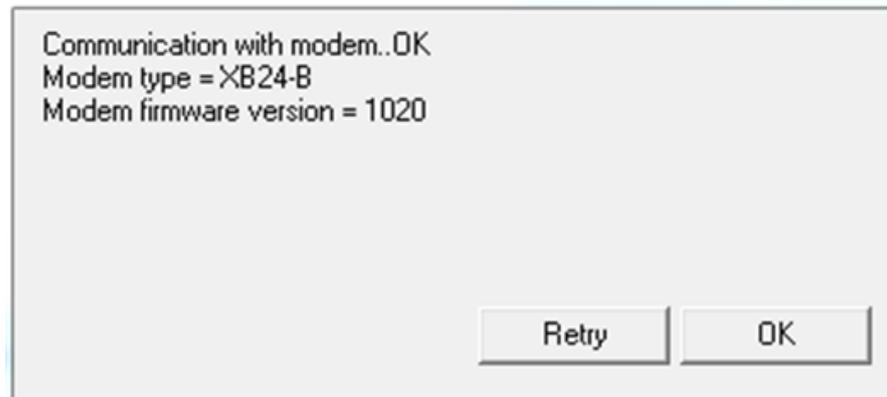

Figure 3: Testing the connection to the XBee module
- b) Click the button **Test/Query** to test whether the software is connected to the XBee module properly. Normally, we will see the dialog box popped out, as Figure 3 shows. If it cannot communicate with the XBee module but all the communication parameters are set correctly, please check the USB connection and the jumper settings on the Arduino development board and the XBee expansion board. (The main control chip of Arduino UNO R3 is a DIP